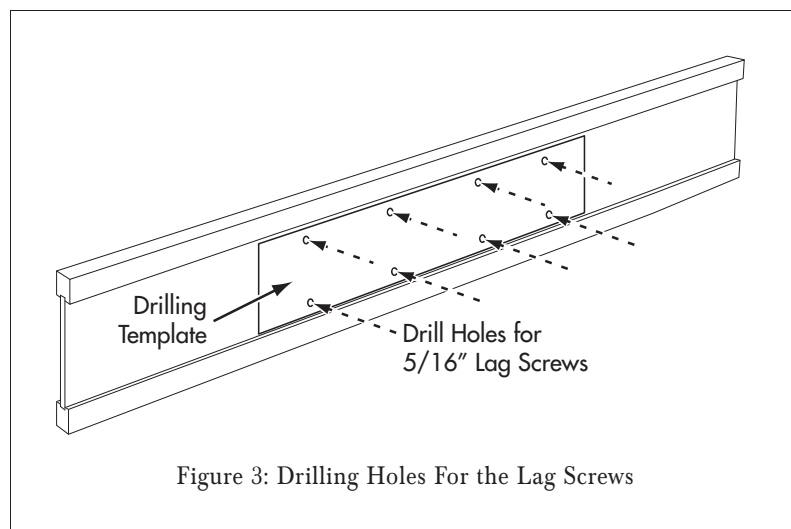

Figure 3: Drilling Holes For the Lag Screws
2. Attach the included Mounting Hole Drilling Template to the ceiling joist at the BPS-1 mounting location (see Figure 3). Make sure that the template is placed high enough so the BPS-1 cabinet will not contact the ceiling material after installation. (Contact can cause buzzing during operation.)
3. Drill eight $\frac{5}{16}$ " holes through the joist at the locations indicated on the Drilling Template (see Figure 3).